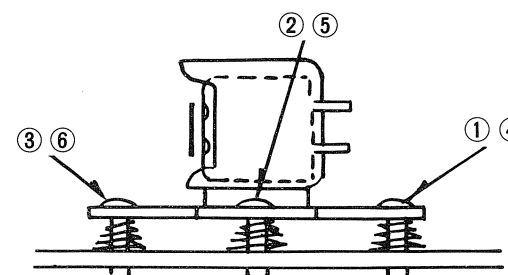

Fig. 25
5. Play the second tape portion (10 kHz, -10 dB). Adjust screw 2 in Fig. 25 to obtain maximum meter readings. If the two channels have different maximum points, adjust for average between these.
6. Reverse tape travel direction. Repeat the same adjustment with screw 5 in Fig. 25.